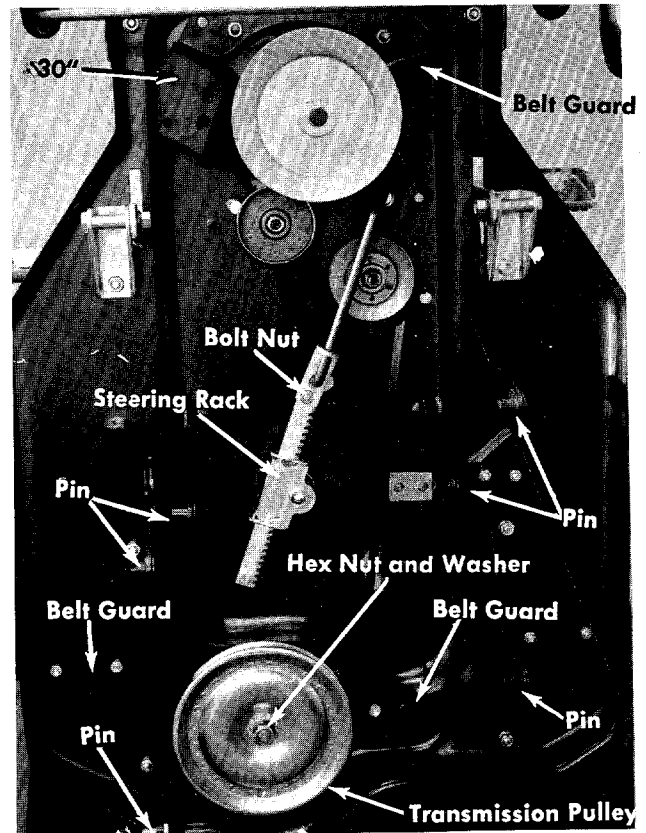

FIGURE 34. BOTTOM VIEW
Step 9. Removing the transmission belt. See figure 34.
- b. Remove the transmission pulley by removing the hex nut and washer. See figure 34.